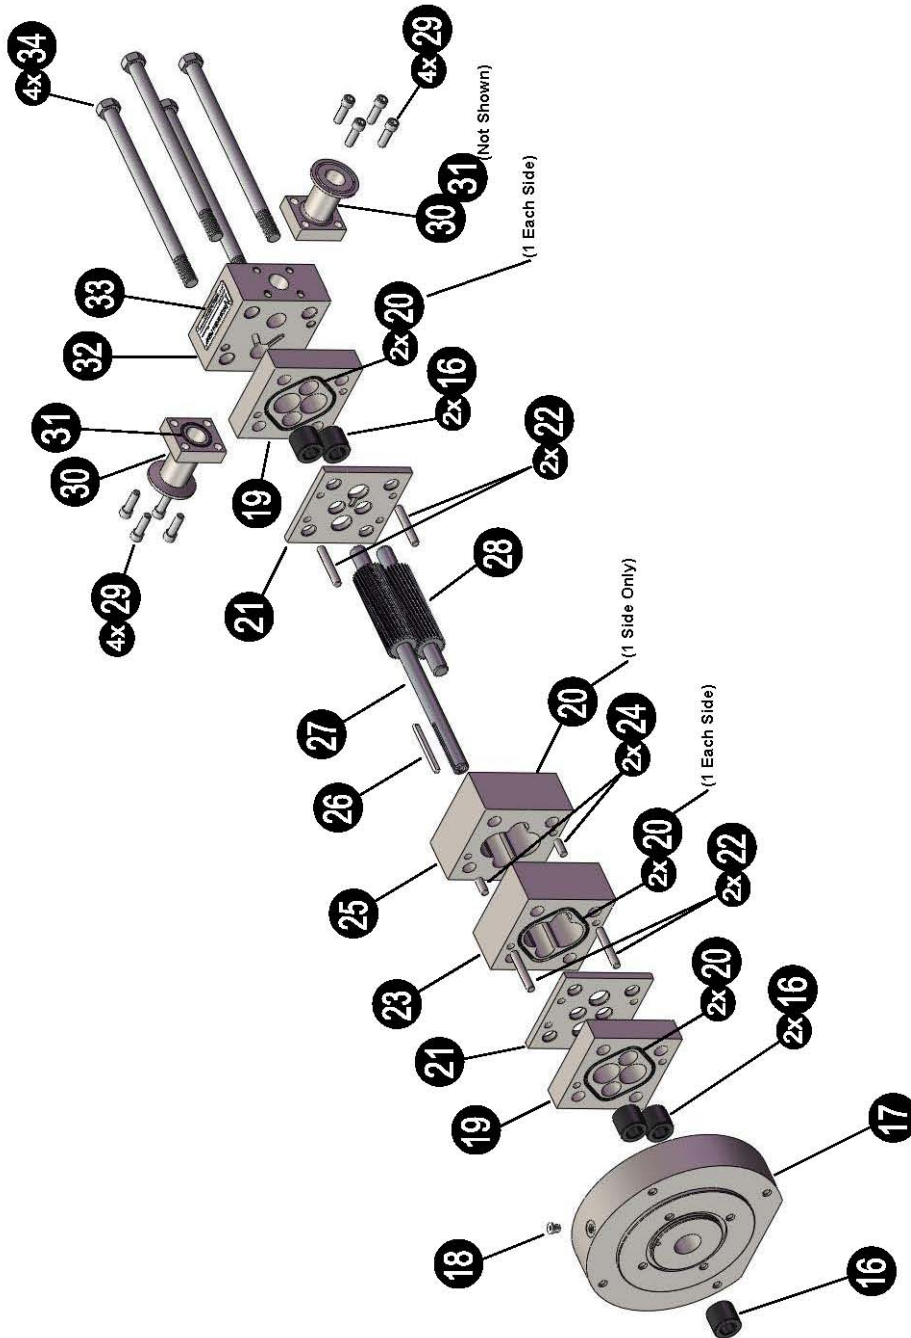

Figure 2
10. Open the air bleed plug (18), Figure 2, to bleed the air from the magnetic coupling containment can. The magnetic coupling is cooled by the flow of liquid through the containment can. It is important that the containment can be free of air.